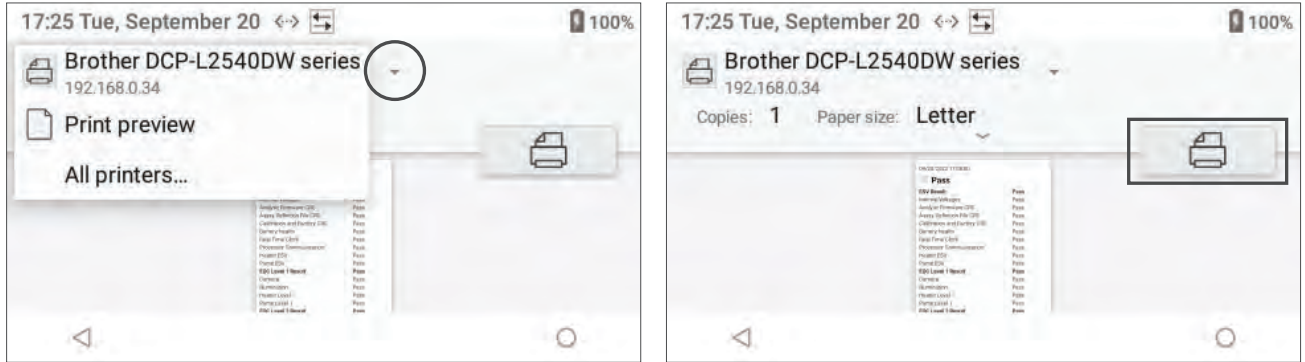

Figure 66: Print EQC Test Result
- **Print the test result** – Select **Result Details** (Result Details) and then select  (Print). Select the desired printer from the drop-down list and then select  (Print) to print the test result (Figure 66). To configure the network printer, see “Printer Configuration” (page 68).